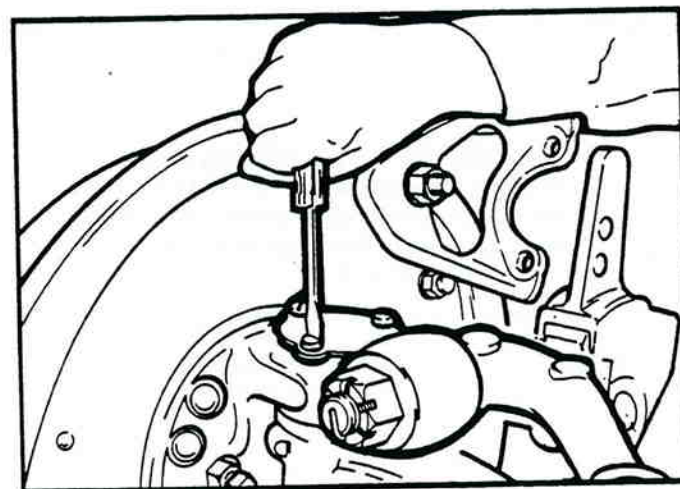

Figure 1-5. Removing Knuckle Pin Cover.
6. Upper and lower knuckle pin covers are present on the newer style axles with straight type knuckle pins. The original MC-9 axle, with the tapered knuckle pin, has a cover on the top of the pin only. Remove the capscrews from the cover(s) and the gasket(s) beneath the cover. See figure 1-5.